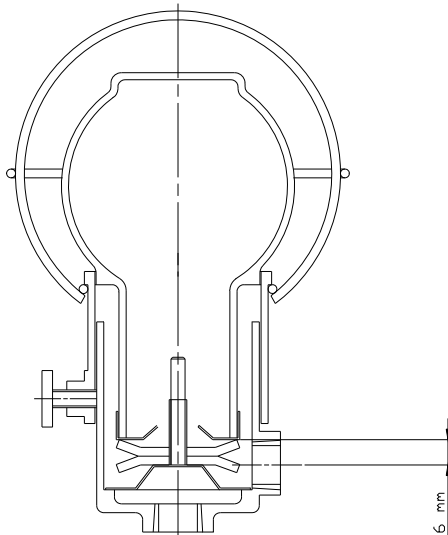

Figure 5.3
- Release thumb screw and remove bottle. Establish a measurement from the centre line of the oiler connection in bearing housing to the upper cross arm of 6 mm (0.24 in.); this can be obtained by completely screwing down the lower arm as illustrated on figure 5.3.